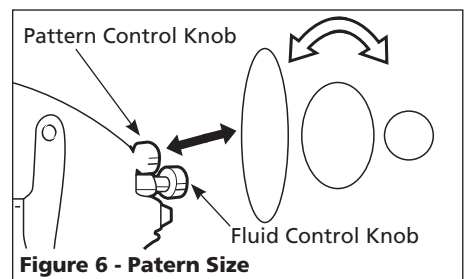

Figure 6 - Patern Size
2. Set pattern size to desired shape. For full pattern, open pattern control knob by turning counterclockwise. For a round pattern, turn pattern control knob clockwise (See Figure 6).